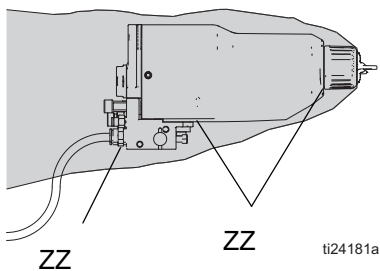

FIG. 20. Check for Fluid Leakage
During operation, periodically check all openings of the gun shroud (ZZ) for the presence of fluid. See FIGURE 20. Fluid in these areas indicates leakage into the shroud, which could be caused by leaks at the fluid tube connections or fluid packing leakage.